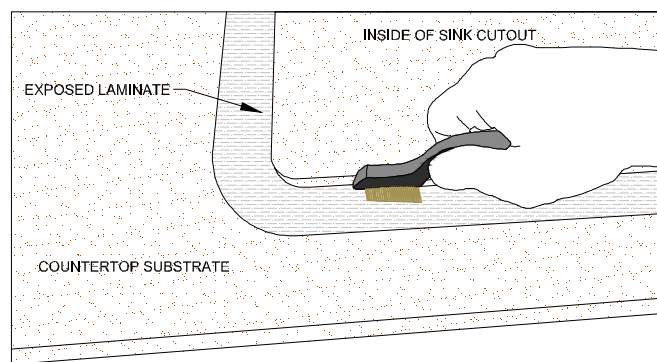

Figure 6B
- Using a wire brush remove any remaining substrate or adhesive residue from the exposed laminate. Blow off all residue with compressed air. (FIG. 6B)